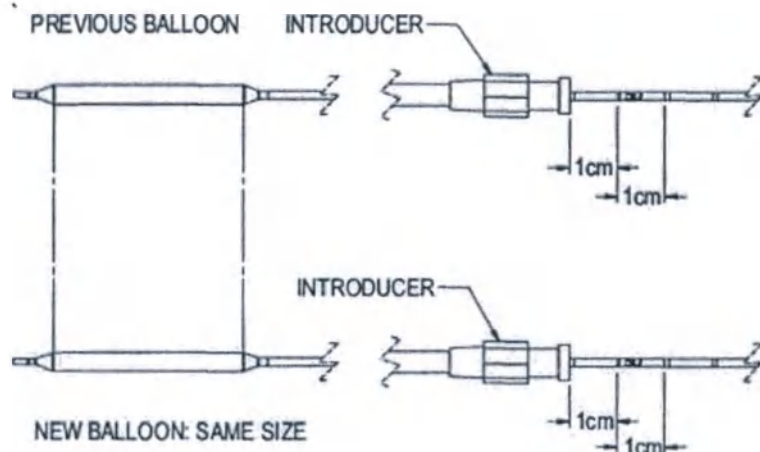

Figure 3
3. To ensure geographic alignment with the pre-dilatation PTA Dilatation Catheter, advance the catheter through the introducer sheath/guide catheter until the GeoAlign™ Marker Bands are in the same location at the introducer sheath/guide catheter hub as the initial PTA Dilatation Catheter. (See Figure 3 and 3a)